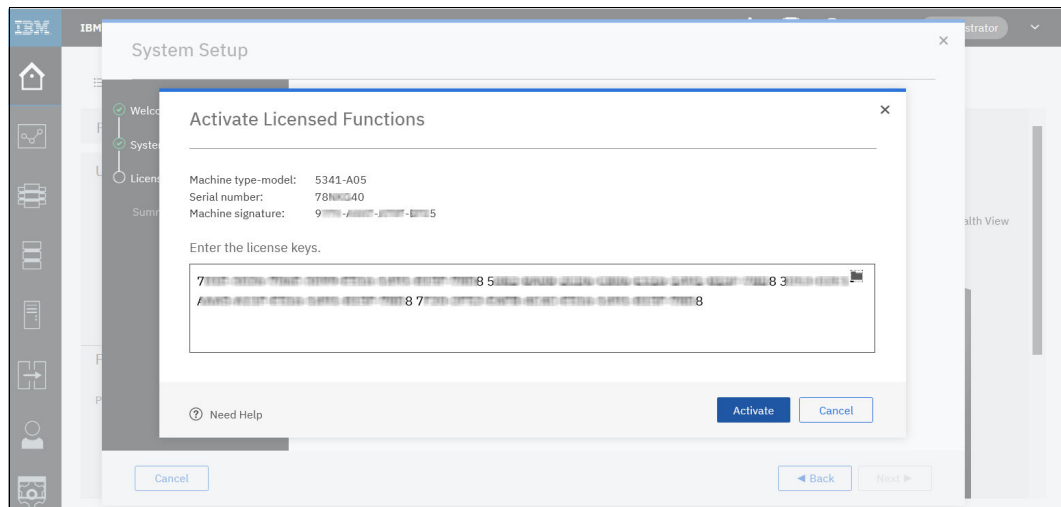

Figure 7-4 Adding the license keys: Activate step
- All generated license keys become visible after importing, and you click **Activate** to start the activation process, as shown in Figure 7-4.
12. Click **Activate** to enter and activate your licensed keys, as shown in Figure 7-4 on page 199.